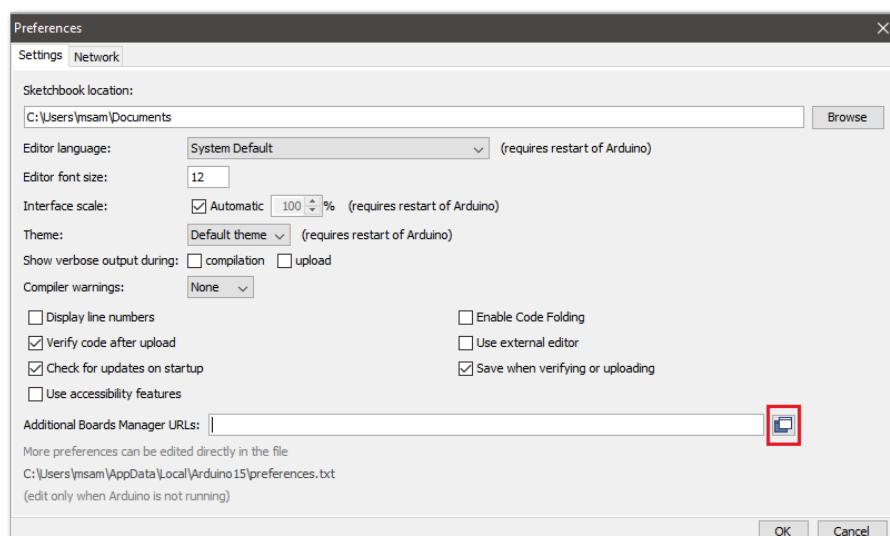

Figure 5: Modifying Additional Board Manager URLs
2. To add the RAK3172-SiP to your Arduino Boards list, edit the **Additional Board Manager URLs**. Click the icon, as shown in **Figure 5**.